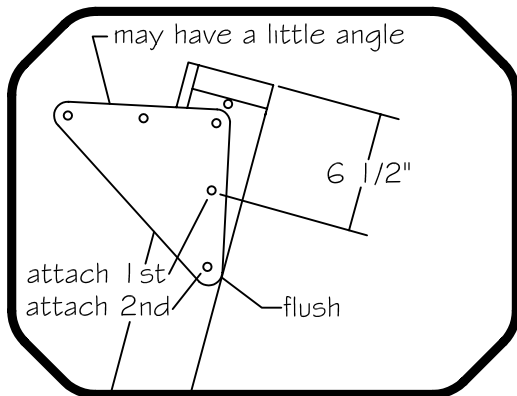

Fig. 5
Step 1: Gather (2) Mending Plates.
Step 2: Place mending plate on outside of upright on side where you intend to place the Monkey Bar Swing. (The Monkey Bar Swing can be attached on either side) Center middle hole 6 1/2" down from top of upright and attach with 1" tapping screws in the middle and bottom hole. Plate may need to have an angle to it so the bottom hole can go into the upright. Attach middle screw before attaching bottom screw. The top corner hole will not take a screw (see Fig 5 & 6)